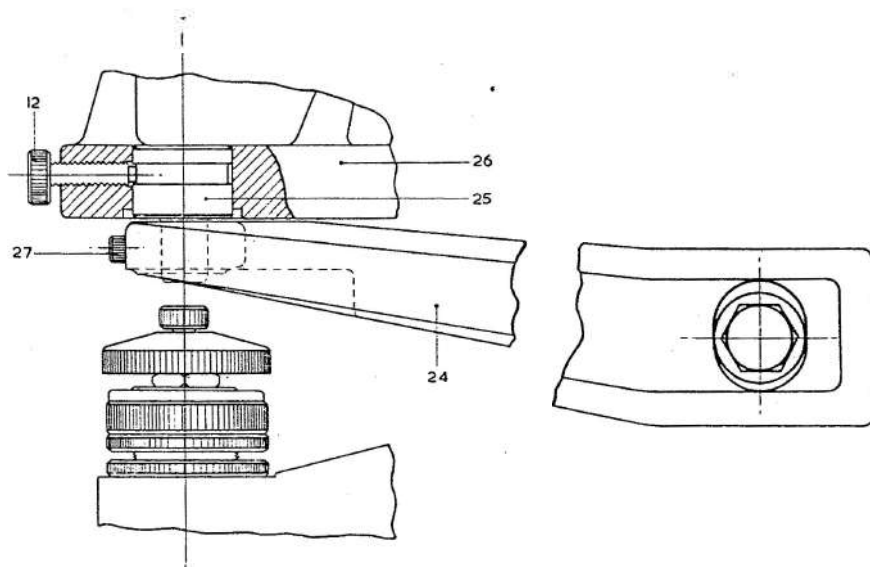

Fig. 14
Milling and Forming Attachment (Figs. 14 and 15)
Fit the milling and forming bracket (24, Fig. 14) to the tenoned seating face on the machine column, and lightly clamp by the $\frac{1}{2}$ -in UN hexagon-head bolt and washer provided. Adjust the height of the bracket at the bolt to give minimum clearance between the top face of the bracket and the cutter frame (26). Fully tighten the bracket bolt.
Pass the milling plug (25, Fig. 14), through the cutter frame (26) and into the bracket (24) and secure by the clamp screw (12) and the hexagon socket cap screw (27).